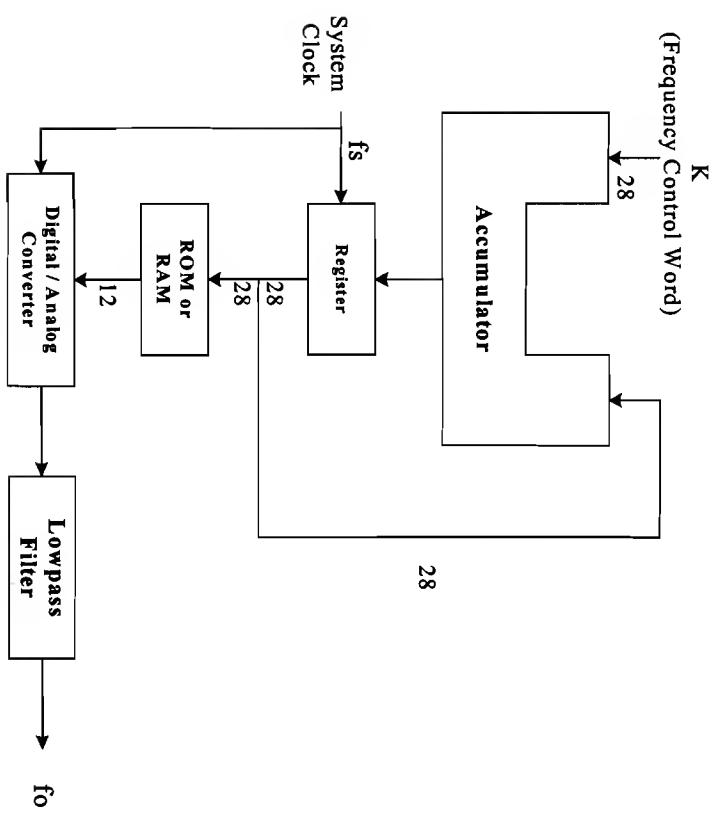

Figure 1
e) Figure 1 is the basic block diagram of a DDS frequency synthesizer.